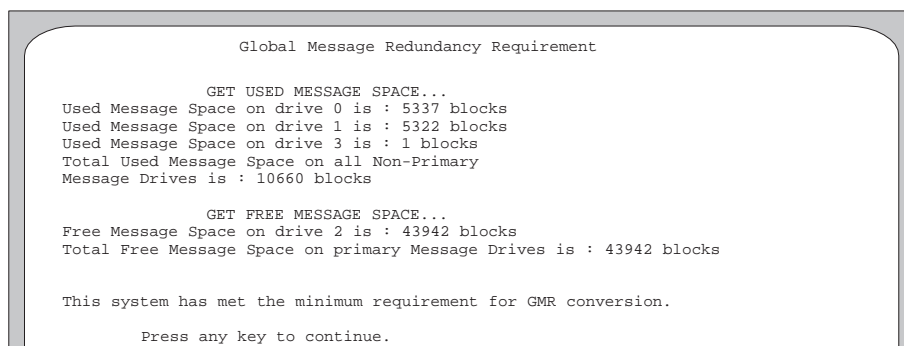

Figure A-17. Determine GMR Requirement Screen.
1. From menu 20, access the Drive Install Utilities, then the Global Message Redundancy utilities, then the Determine GMR Requirement option. The utility checks and displays the used and free message space, as shown in Figure A-17.